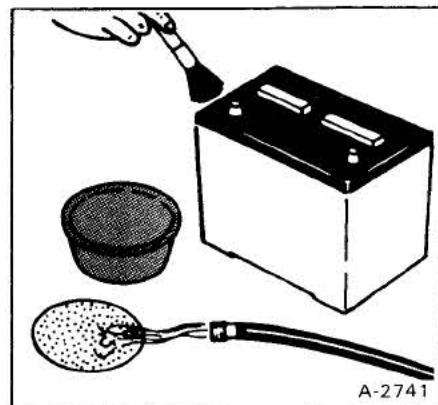

Fig. 58 Cleaning Battery
- Check to see that the battery cables are clean and tight. Remove any acid or corrosion from the battery and cables with a baking soda and water solution (Fig. 58). Cover the terminals with Clark Battery Saver to prevent corrosion.